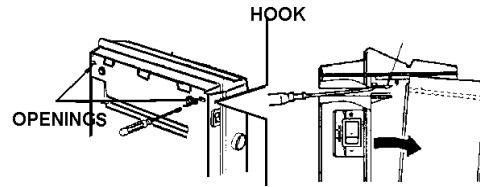

FIGURE 11 - UPPER CABINET REMOVAL
3.6.2 To remove the upper cabinet, raise the unit and insert a screwdriver (Philips 1/4") straight in the center of the openings. Push the screwdriver to release the hooks (Figure 11).